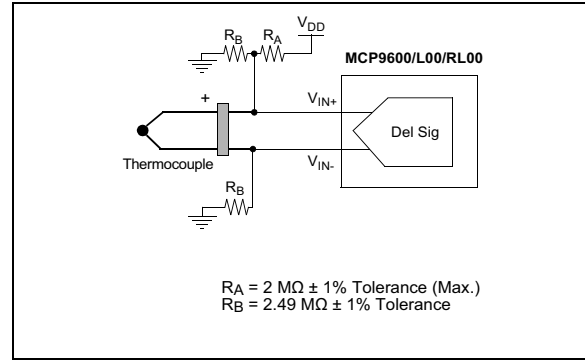

FIGURE 6-6: Adding Open-Circuit Detection Resistors (MCP9600/L00/RL00).
For MCP9600/L00/RL00 open-circuit detection, the Input Range bit (bit 4) of the STATUS register (Register 5-6), can be used to detect open-circuit conditions. This would require a few external resistors, as shown in Figure 6-6. The passive circuit does not affect the MCP9600/L00/RL00 accuracy. When the thermocouple is connected, the input Common-mode voltage is 50% of V_{DD} . When the thermocouple is disconnected, the voltage at the V_{IN+} input is 66% of V_{DD} and the voltage at the V_{IN-} input is pulled low to V_{SS} . This change forces the Input Range bit to be set.
7. Updated Figure 6-6, 7, 9, 10, 11, 12.